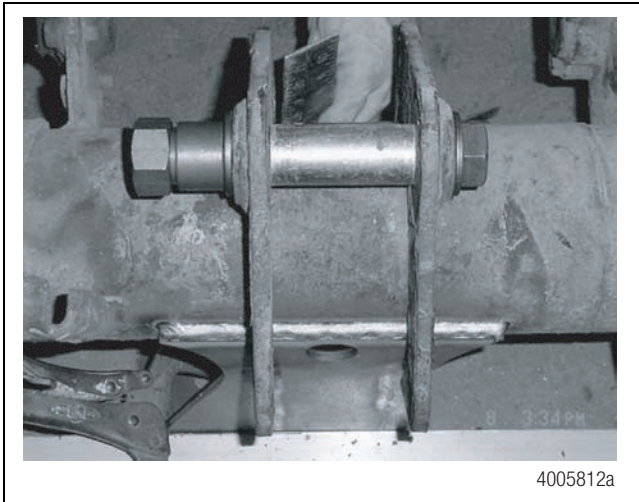
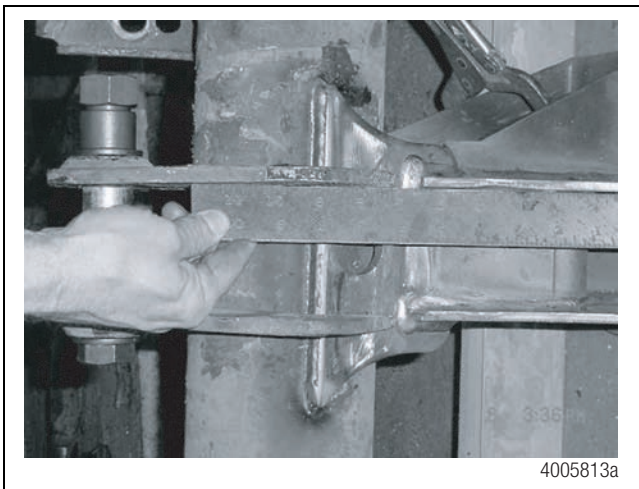

Figure 24
Figure 25
- Use a straightedge to align the lower axle seats with the upper axle seats. Verify that the bolt holes are as close to the center of the axle as possible. Figure 24 and Figure 25.